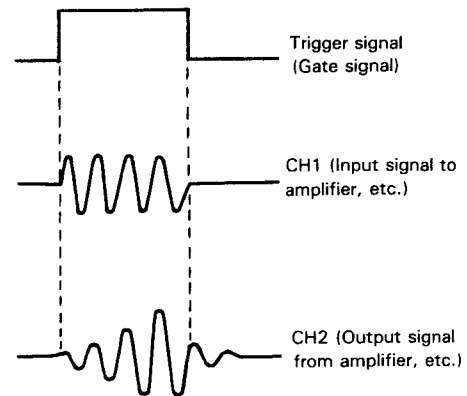

Fig. 7
When the SOURCE selection is in EXT/CH3, the input signal at the EXT TRIG INPUT ②④ jack becomes the trigger. This signal must have a time or frequency relationship to the signal being observed to synchronize the display. External sync is preferred for waveform observation in many applications. For example, Fig. 7 shows that the sweep circuit is driven by the gate signal when the gate signal in the burst signal is applied to the EXT TRIG INPUT jack. Fig. 7 also shows the input/output signals, where the burst signal generated from the signal is applied to the instrument under test. Thus, accurate triggering can be achieved without regard to the input signal fed to the INPUT ⑤ or ⑨ jack so that no further triggering is required even when the input signal is varied. When the vertical MODE is set to TRI, triple-trace display is provided and the signal applied to EXT/CH3 is to be used to trigger the sweep, with INTERNAL sync possibility.